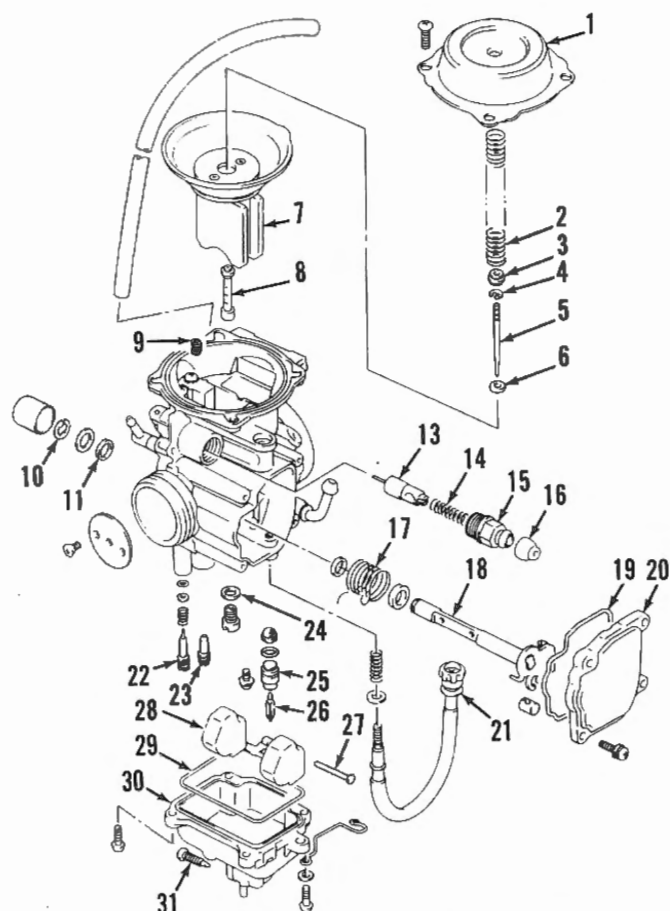
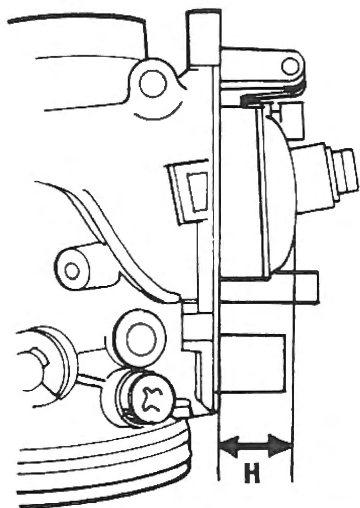

Fig. S13-9—Exploded view of Mikuni BST31SS carburetor.
Fig. S13-10—Hold fuel bowl of Mikuni BST31SS carburetor as shown when measuring float height (H).
Initial setting of idle mixture screw (22—Fig. S13-9) is $2\frac{7}{8}$ turns out on LT-4WD and LT-F4WD models, $2\frac{5}{8}$ turns out on LT-F4WDX models and $2\frac{3}{4}$ turns out on LT-F250 models. Make final adjustment with engine at normal operating temperature. Adjust idle speed screw (21) so engine idles at 1400-1600 rpm.
Refer to Fig. S13-9 for an exploded view of carburetor. Note location of components during disassembly. Inspect components for damage and excessive wear. Rubber bellows attached to throttle slide (7) must be free of tears and holes. Note the following during assembly: Install needle jet (8) so flat side matches flat in body. Be sure throttle slide (7) bellows fits groove in body properly. To check float height, hold carburetor so float is hanging down as shown in Fig. S13-10 and float arm is lightly pressing against float valve. Float height (H) should be 12.5-13.5 mm (0.49-0.53 in.). Adjust float height by carefully bending float arm tang.